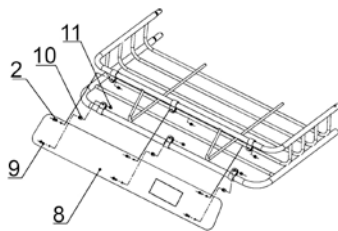

Fig. 3
plate, spacer tube and clip. Insert a M6*40 bolt (#9) through each of the 3 bolt holes on the plate's bottom (Fig. 3).
4. Insert a M6*25 (#2) bolt through each of the bolt holes in the plate's top (Fig. 3).
5. Secure all 6 bolts with an M6 locknut (#11) (Fig 3).